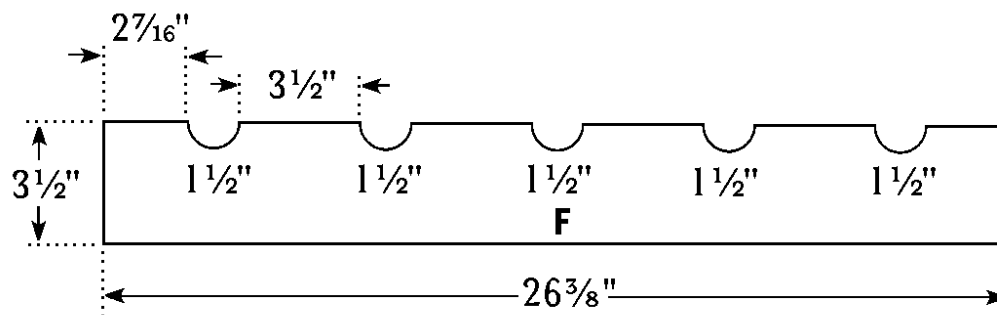

Figure 4
7. Referring to *Figure 4*, mark and cut the semi-circular cuts that will hold the tops of the wine bottles. Apply glue to the meeting surfaces, and attach one of the Horizontal Wine Trims